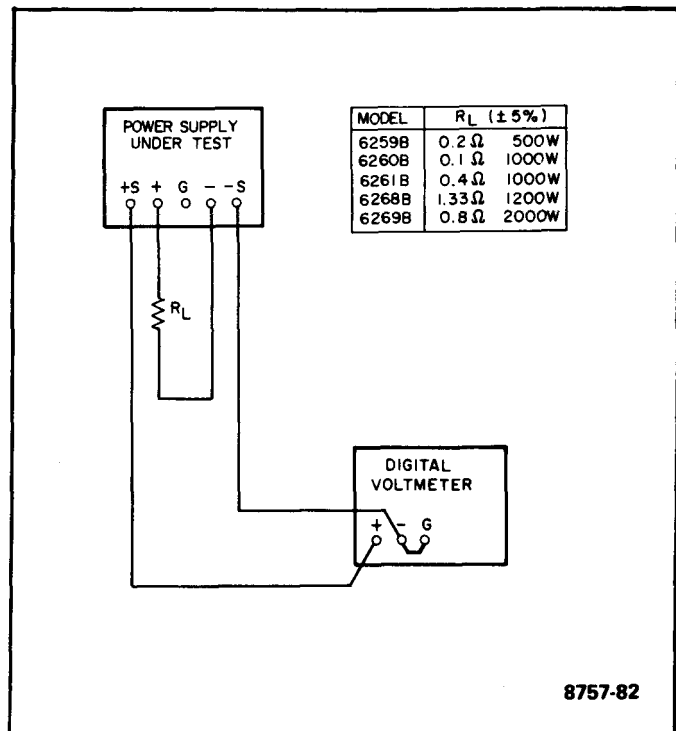

Figure 5-1. Constant-Voltage Load Regulation Test Setup
- a. Connect load resistor (R_L) indicated in Figure 5-1 across output terminals of supply.
- a. Connect test setup shown in Figure 5-1.
- a. Connect load resistance and digital voltmeter as illustrated in Figure 5-1.